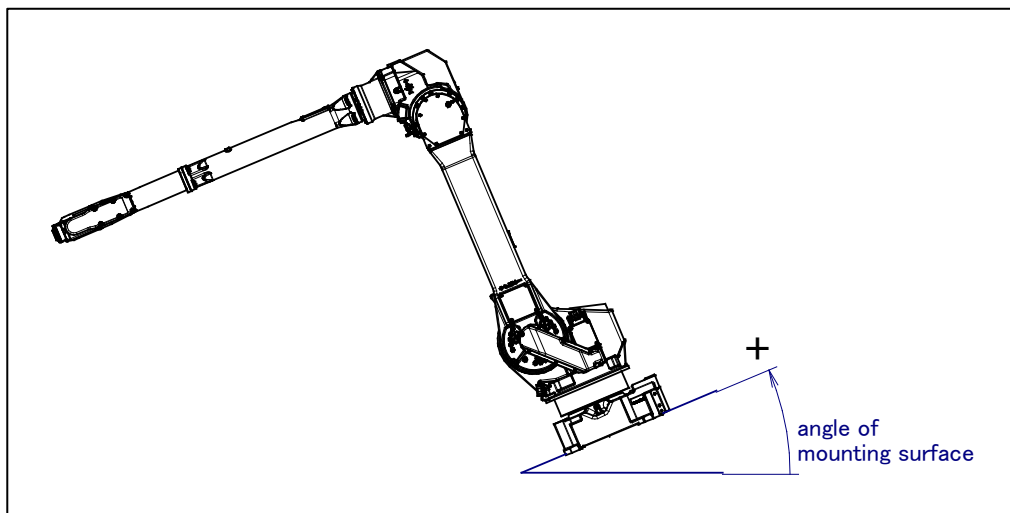

Fig. 1.2.2 (a) Mounting angle
- 6 Input the angle of mounting surface referring to Fig. 1.2.2 (a).